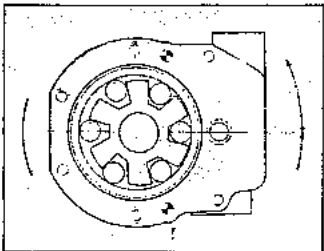

Fig. 11.35 Vane angle to be as shown (Sec 28)
- 12 Reassembly is a reversal of dismantling, but observe the following points. The shaft seal is fitted to the pump body so that its lip is towards the carrier pocket. The vane carrier is fitted to the shaft so that the greater vane angle is as shown in Fig. 11.35.